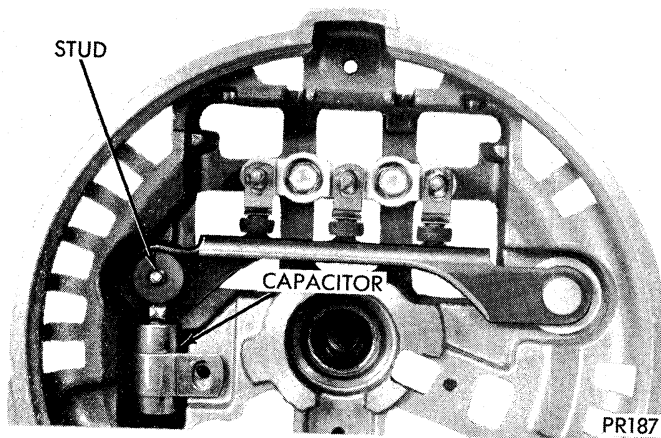

Fig. 35—Installing Capacitor
(8) Install capacitor terminal over heat sink stud, (Fig. 35). Install capacitor insulator (be sure it seats properly in capacitor terminal and heat sink hole). Attach capacitor bracket to end shield with metal screw. Tighten to 30 to 40 in.-lbs. torque. Complete capacitor end assembly by installing positive heat sink nut and lock washer assembly. Tighten to 20 to 30 in.-lbs. torque.